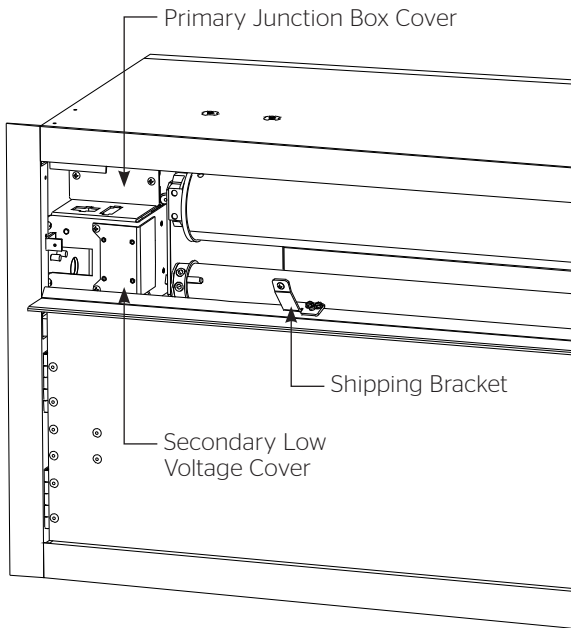
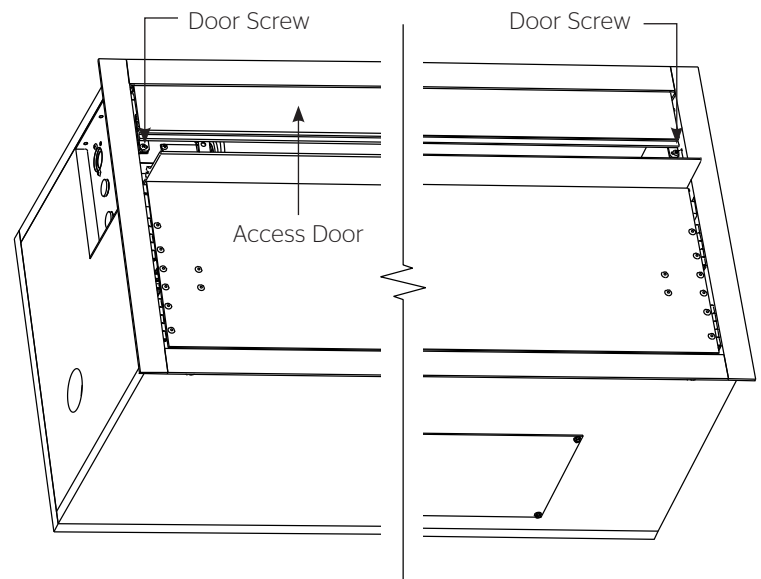

Figure 2 - Bottom of Case
Figure 3 - Bottom of Case
5. Install electrical connections that apply to your unit. Refer to the electrical diagram on page 4. The electrical connections are accessible by removing the two screws on the primary junction box cover and the two screws on the secondary low voltage cover (Figure 2). You can remove the access door if needed to allow for greater access to the electrical wiring. To remove the access door; remove the screw from each end of the door while holding the door and slide the door off the flanges (Figure 3).
6. Remove shipping brackets by removing the hex head screws from aluminum slat and case. Slat should move freely (Figure 2). (Only if the roller assembly is pre installed.)